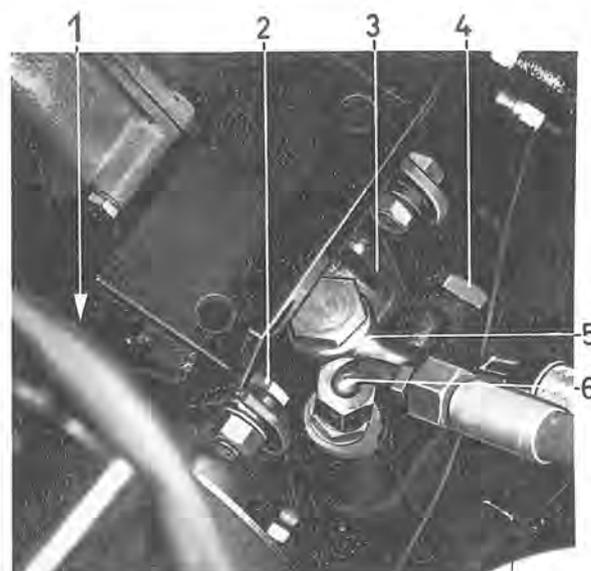

Fig. 6-67. Servo pump, fitted
1. Clean round the connections (5 and 6, Fig. 6-67).
2. Disconnect the suction line (5) and collect the oil running out.
3. Disconnect the delivery line (6), and unscrew the tensioning bolt (1) and the attaching bolts (3). Protect the nipples and connections from dirt.
Concerning replacement of pump, supplement the new pump with brackets, pulley and other parts, see Fig. 6-67. When fitting the pulley, the tolerances may be such that the pulley cannot be pressed on by hand. In these cases, press on the pulley with care. It must not be hammered on, otherwise the bearings might easily get damaged, resulting in noise in the pump.
2. Fit the attaching bolts and other components, see Fig. 6-67. Tension the drive belt so that it can be pressed in about 5 mm ( $3/16$ ") in the middle. Tighten the bolts and the connections.